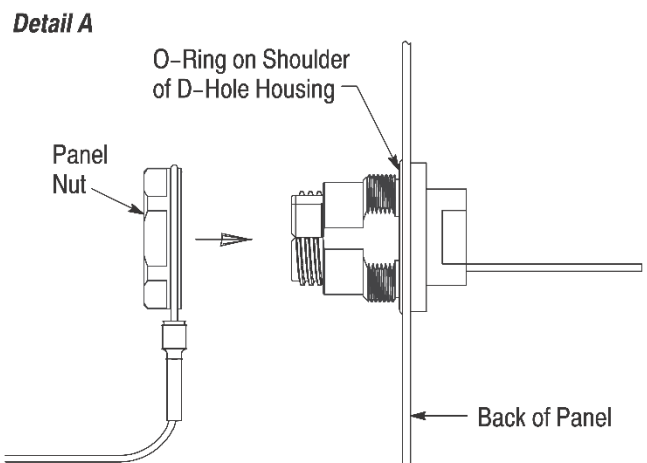

Figure 13
2. Install the connector through the back of the panel so that the O-ring on the shoulder of the D-hole housing is flat against the panel. See Figure 13, Detail A.
3. Thread the panel nut onto the D-hole housing. See Figure 13, Detail A. Tighten the panel nut to a torque between 20 and 30 N·m. The O-ring should now be compressed.